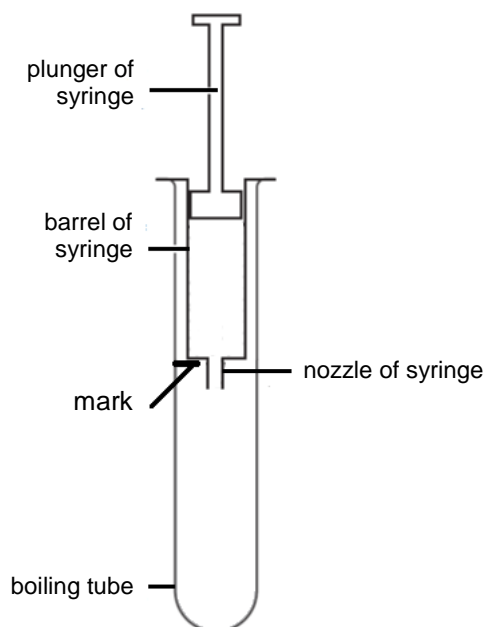

Fig. 1.1
The apparatus that you will set up is shown in Fig. 1.1, using a boiling tube and a 5 cm³ syringe.
Step 2 Put an **empty** 5 cm³ syringe into the boiling tube **G4** as shown in Fig. 1.1.
Step 3 Using the marker provided, draw a mark on the boiling tube labelled **G4**, as shown in Fig. 1.1, so that the mark is level with the top of the nozzle of the syringe.